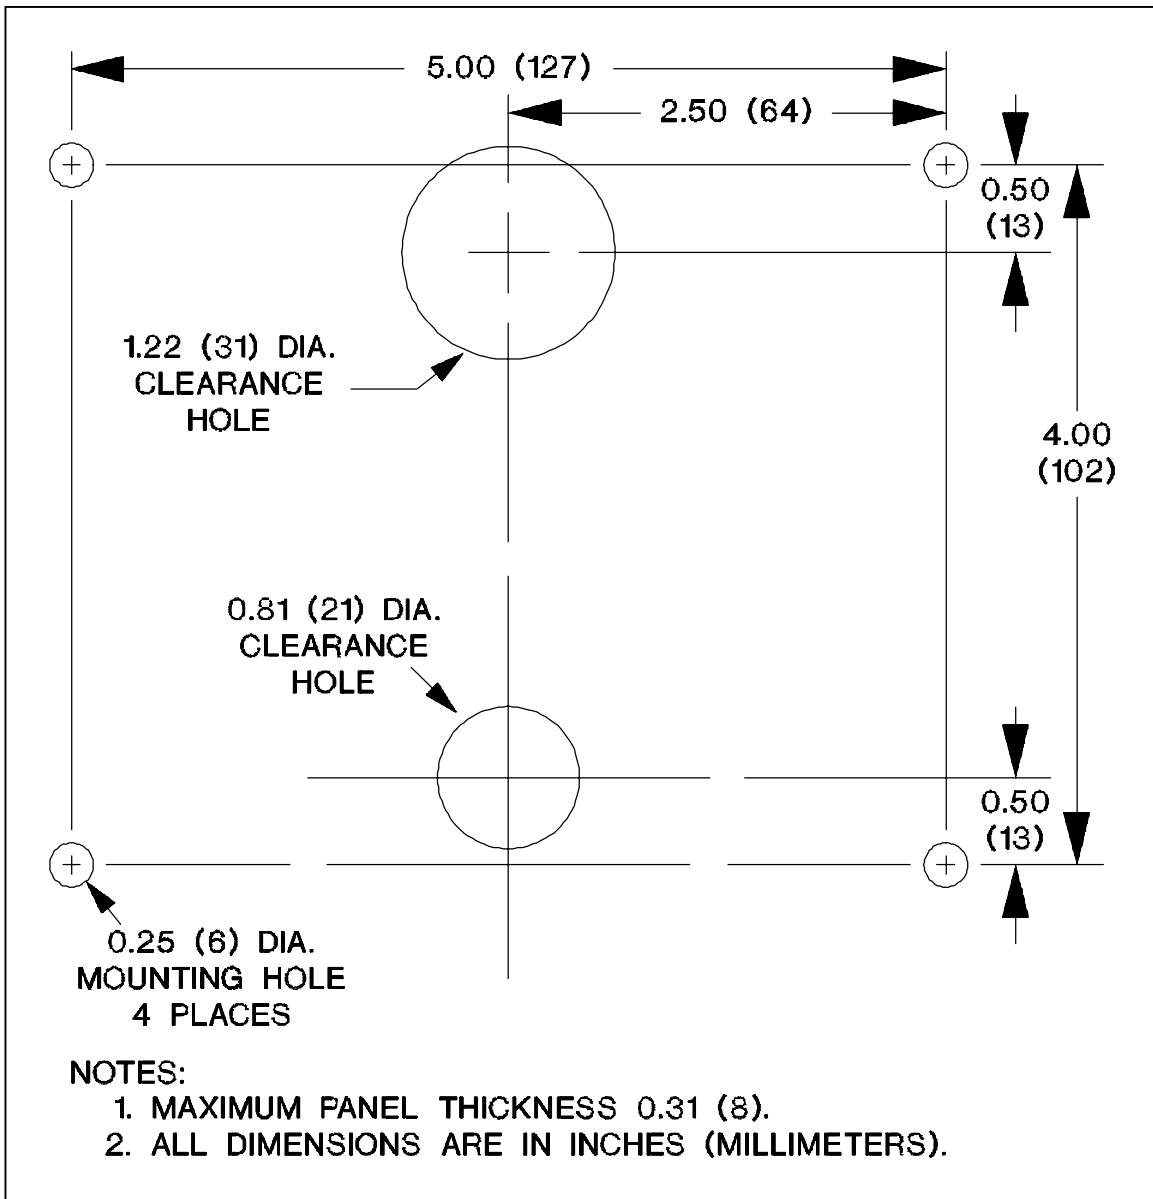
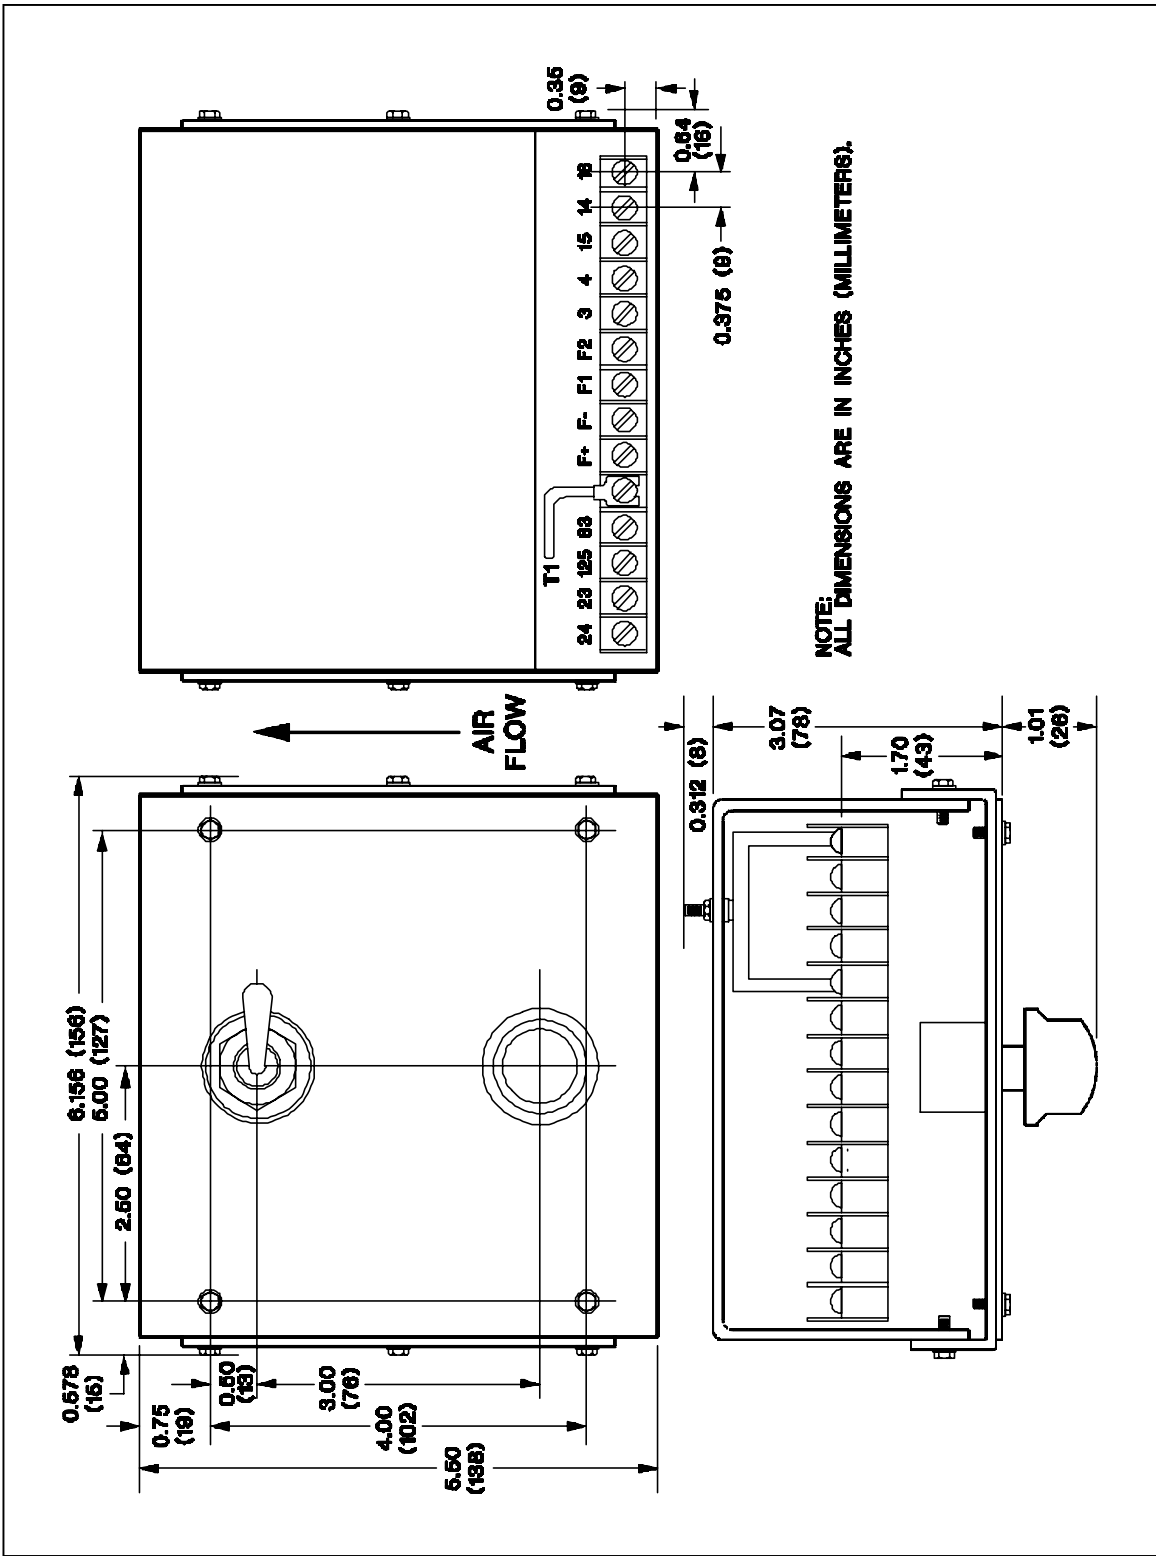
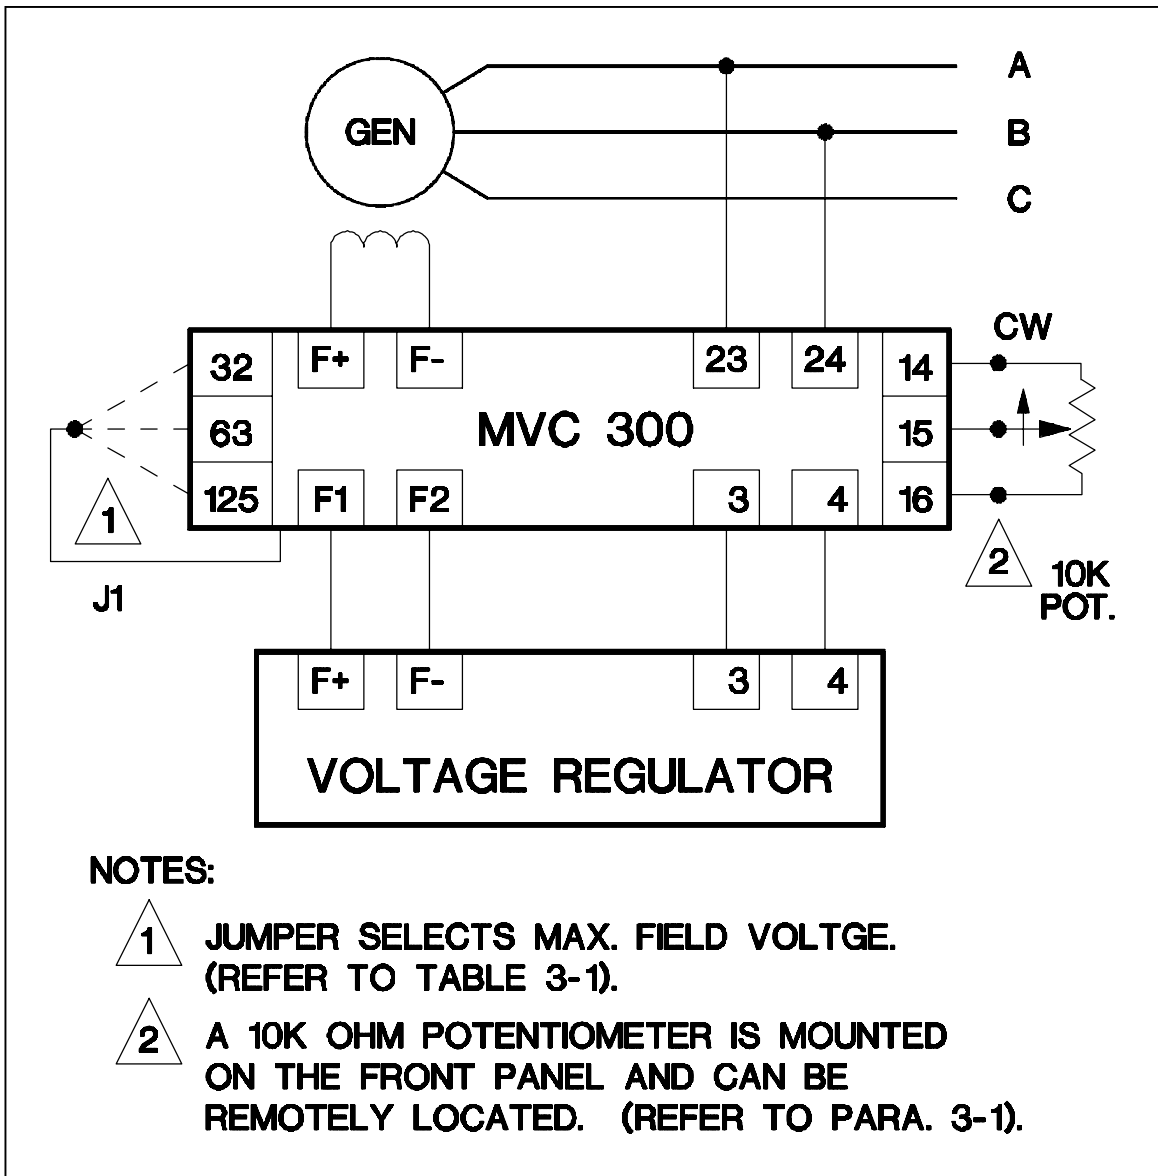

Figure 3-1. Panel Drilling Template
Figure 3-2. MVC 300 Outline Drawing.
Figure 3-3. MVC 300 Interconnection Diagram, Typical.
a. The MVC-300 is designed for 'through-the-panel' mounting. Refer to the drilling template of Figure 3-1 and to the outline drawing Figure 3-2. The front panel of the MVC-300 is detachable by removal of the knob and locking nut from the **MANUAL VOLTAGE ADJUST** control and the four corner screws. The MVC-300 can be installed in any position without affecting its operating characteristics, however, it is preferable that the device be mounted vertically to improve ventilation. The **MANUAL VOLTAGE ADJUST** control can be removed and installed remotely by using terminals 14, 15 and 16 or a Basler motor operated control (MOC 2) with a 10 k ohm control element can be connected to terminal 14, 15, and 16. See Figure 3-3 Interconnection Diagram. It is imperative that the MVC-300 be connected to provide an output which corresponds to the voltage regulator ratings in order to prevent damage to the MVC-300 or the regulator. When the MVC-300 and voltage regulator are properly matched, the MVC-300 provides smooth control of the generator output voltage in the manual mode.
Step 1. Verify that wiring is correct and proper in accordance with Figure 3-3.